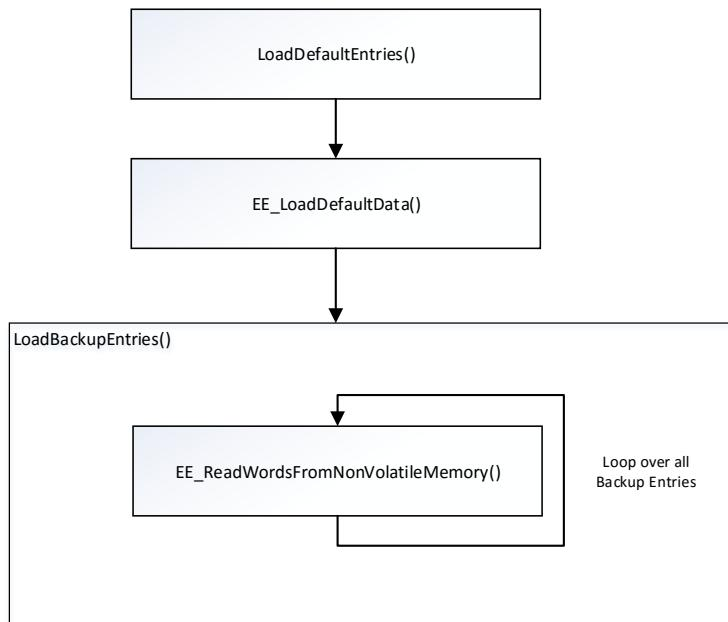

Figure 15: Restore the default backup parameter values
- 0x1011.1 Restore default values (if 0x64616F6C is written the default backup parameters are read, see Figure 15).